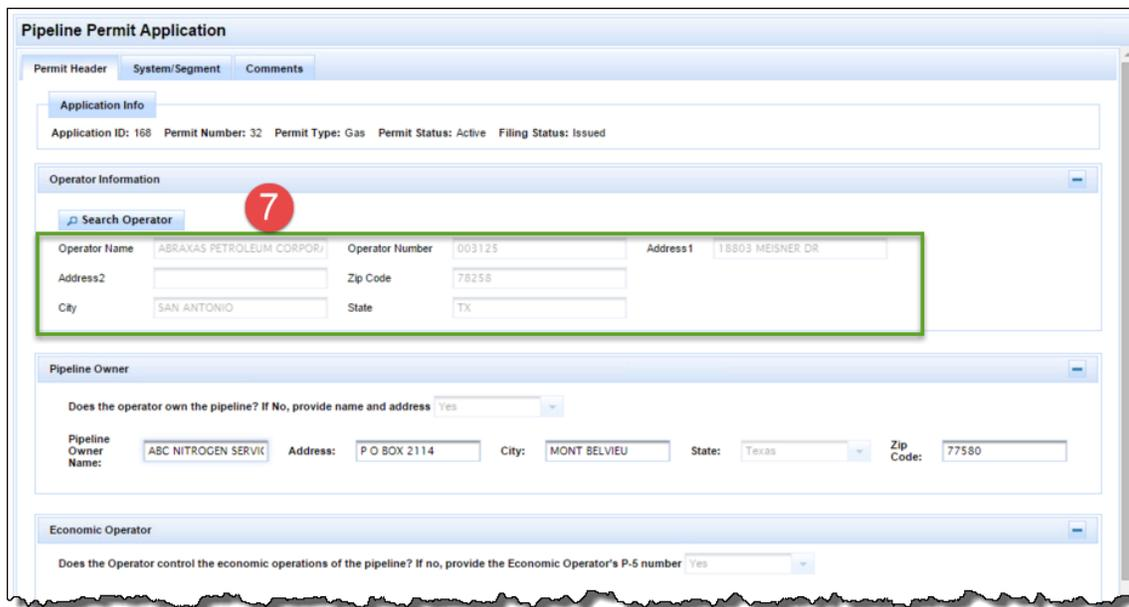

Figure 124: Permit Transfer, Step 7
- Note on the Header tab that the Operator information has changed, as shown in the example Permit Header tab shown in Figure 124.